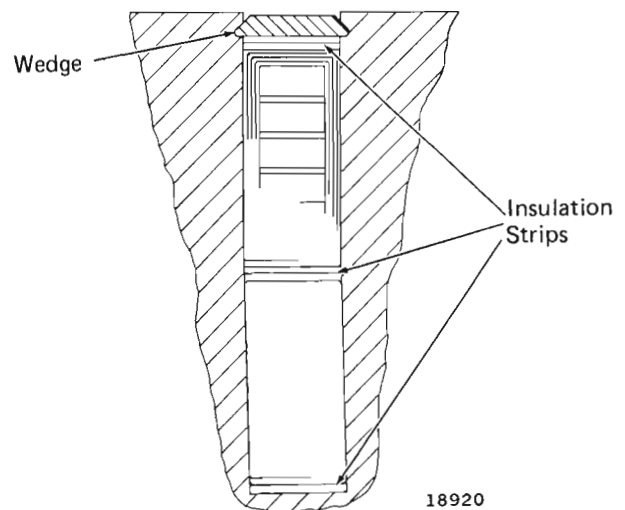

Fig. 1 – Coil Wedges And Insulation
3. Install wedges as shown in Fig. 1. After starting the wedges, coat the sides of the slot and the top of the filler strip with shellac at both ends and drive wedges into place.
8. Replace mica insulation strip in bottom of slot where coil was removed, Fig. 1.
11. Place mica insulation strip in each slot on top of bottom coils, Fig. 1.